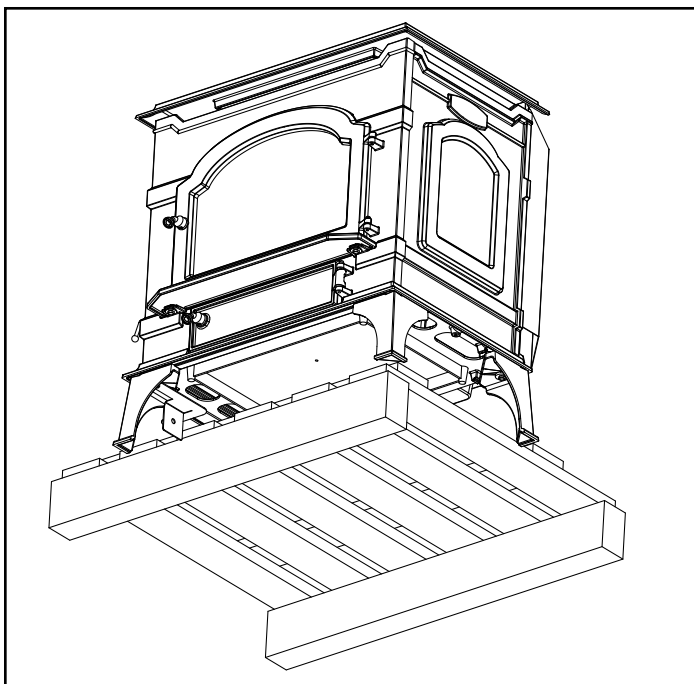

Figure 21 - Reposition stove so one rear leg can be attached.
7. Reposition the stove so the first rear leg can be attached. Attach the leg using the procedure described in Step 6. (Figure 21)
9. Remove the (4) 1/4-20 x 3/8" hex head bolts from the mounting bosses and attach the bottom heat shield using the same bolts.